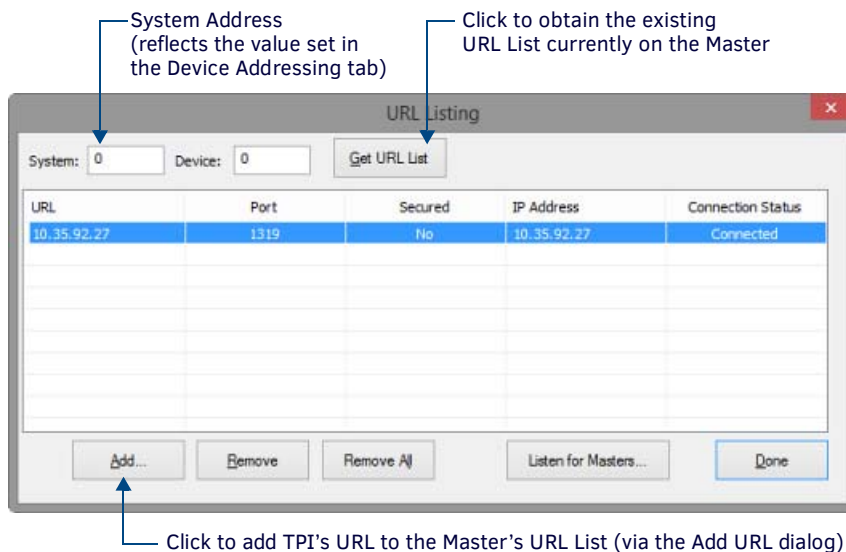

FIG. 46 NetLinX Studio - URL Listing dialog
7. In NetLinx Studio, select **Diagnostics > URL Listing** to open the *URL Listing* dialog (FIG. 46).